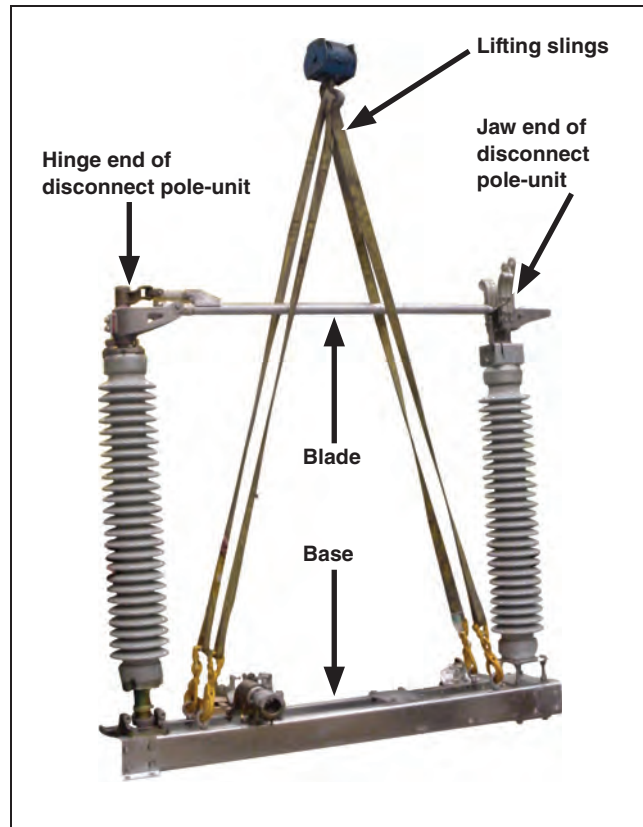

Figure 11. Attach lifting slings to the disconnect pole-unit and raise into place on the structure.
STEP 2. Make sure the rigging does not stress the blade or blade contacts. Raise the disconnect to the appropriate elevation and position it over the correct set of mounting holes in the switch base and channel assembly. Avoid sudden starts and stops, and avoid contact with other objects. Refer to the associated reference drawing (RD) for details. See Figure 11.